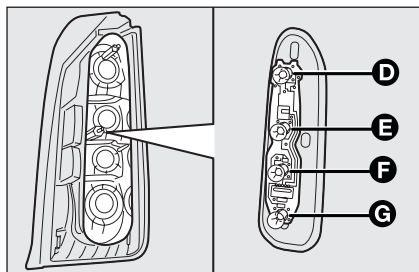

fig. 29
- ☐ remove bulbs **D - E - F - G**-fig. 29 lightly pushing them and turning them counter-clockwise;